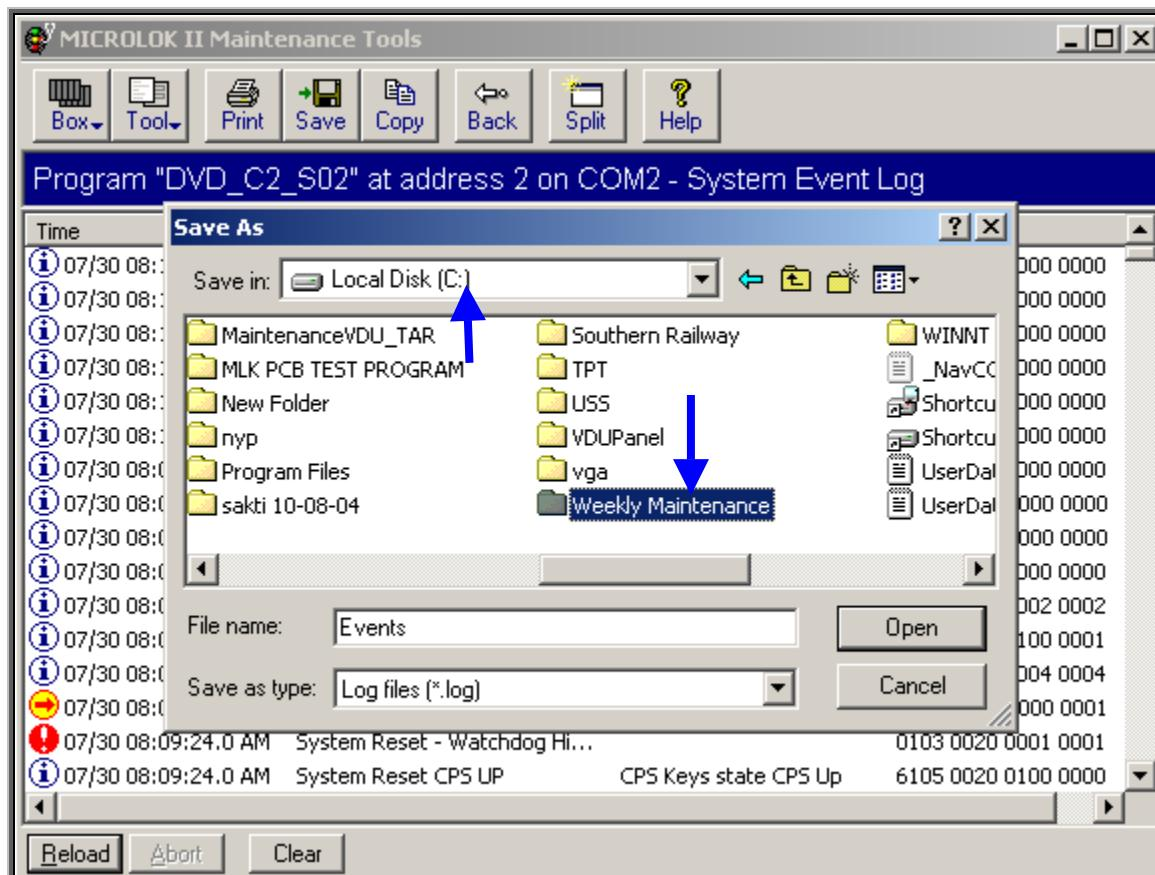

Figure-5.6.3.5
- ❖ Double click on the “Weekly Maintenance” folder in the Maintenance PC “C” drive (Figure-5.6.3.5).